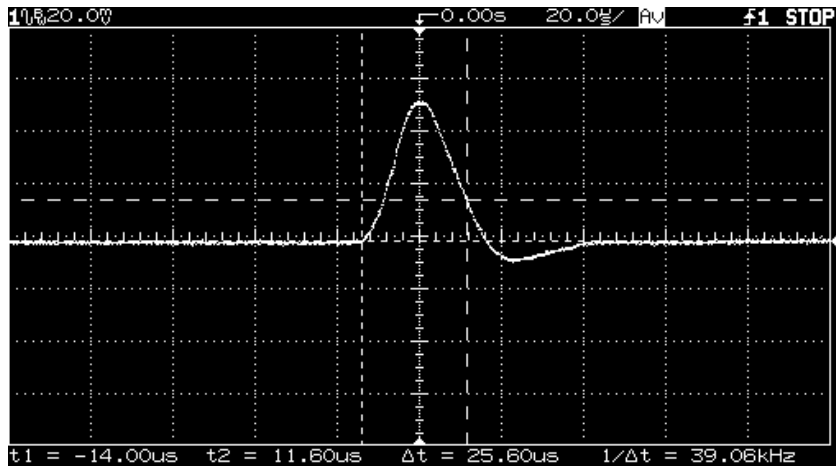

Figure 3-2. Transient Response Time
- 5 Adjust the the oscilloscope to display transients as shown in Figure 3-2. Note that the pulse width (t_2-t_1) of the transients at 15 mV from the base line is no more than 50 μ sec for each of the three outputs.
- 6 Repeat steps (1) through (5) for the remaining outputs.